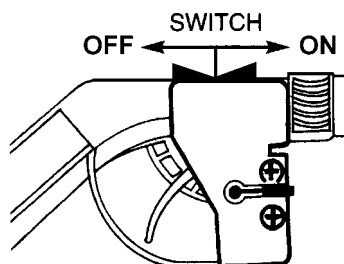

FIG 10
- Place lawn edger on ground in horizontal position (see Fig. 13). Be sure the ignition switch is "ON". Switch located on top of trigger handle (See Fig. 10).
- To stop engine push ignition switch down on top of throttle trigger (Fig 10).